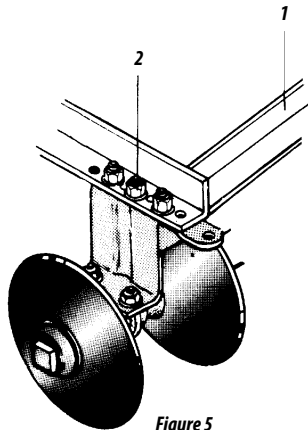

Figure 5
- 10 - Assembly the frame (1), figure 5, with the disc section through the bolt (2). Watch that the support of the bearing fixation shoe must face the disc concavity according to figure 5.